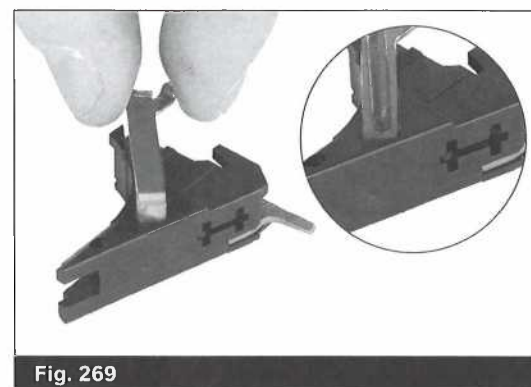

Fig. 269
- Insert the short leg of the connector into its recess in the trigger mechanism housing (Fig. 269). Press the connector in by using your pin punch (or your screwdriver) as shown (Fig. 269). While doing this operation, be careful to locate your tool as near as possible to where the connector is inserted in the trigger mechanism housing. Otherwise you could damage the connector. This should be a snug fit. Always seat the connector fully and ensure that it's firmly in place.